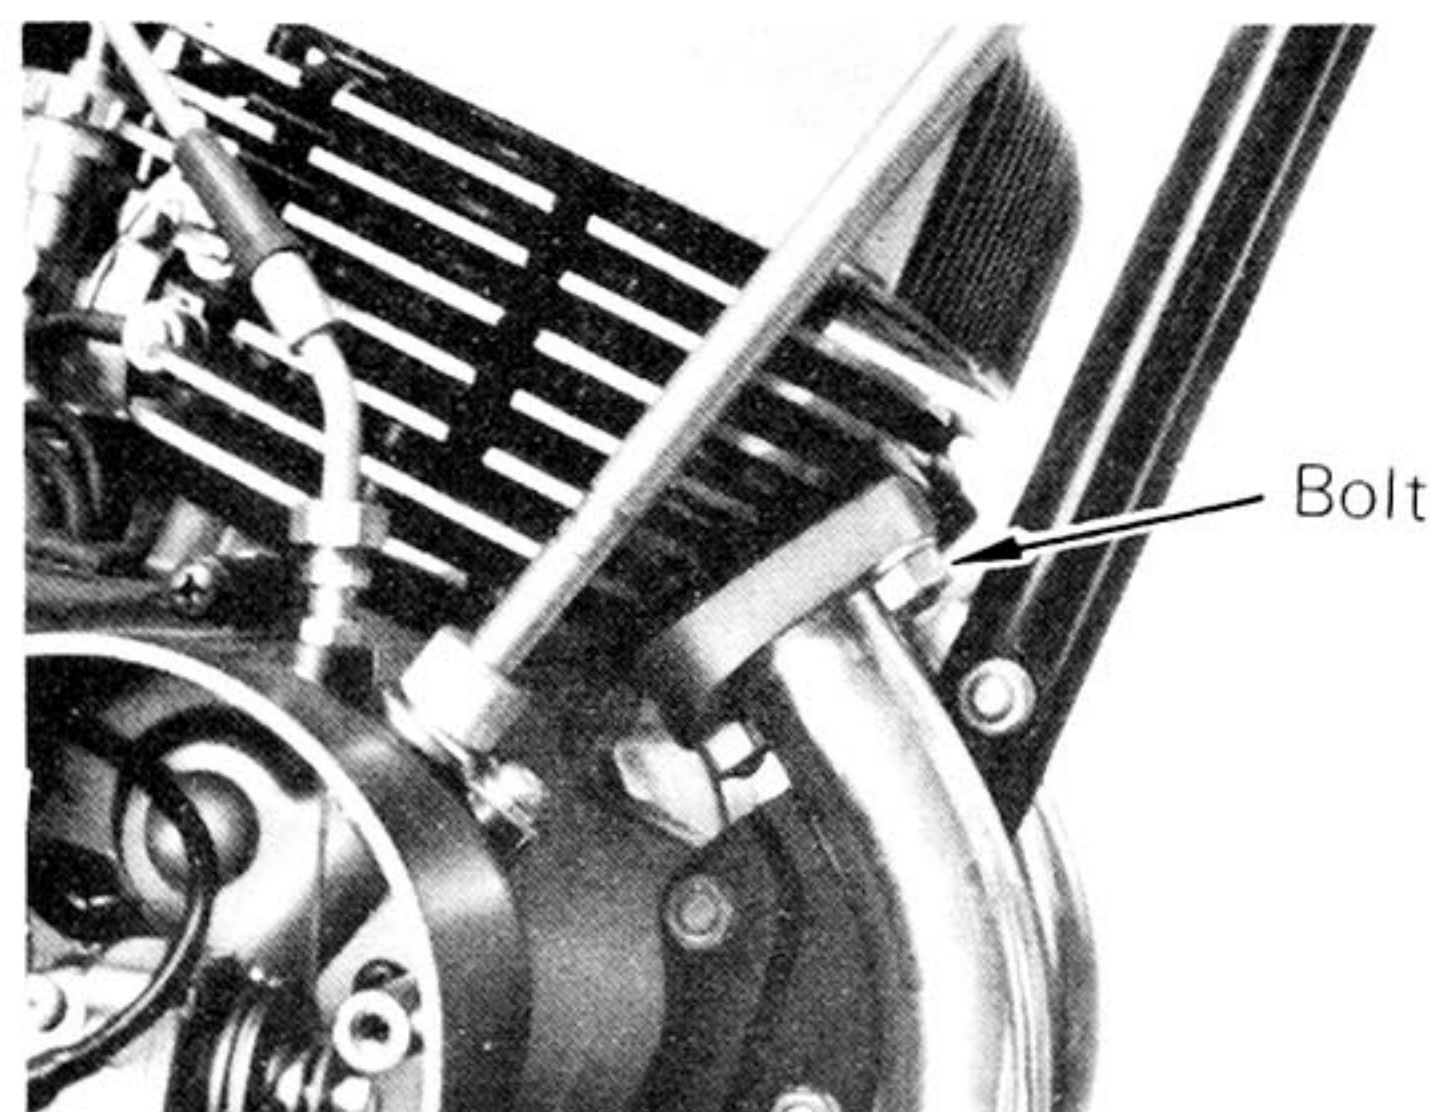

Fig. 4-1-3
2. Remove the mufflers (Fig. 4-1-3)